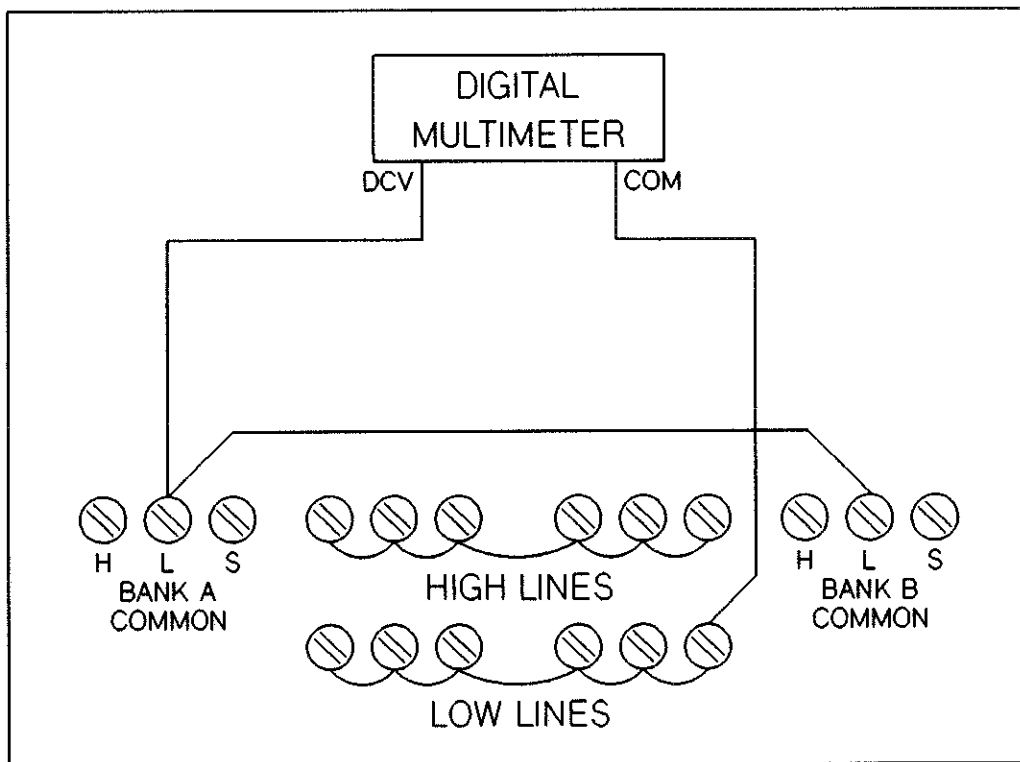

Figure 10-9 HP 44711A LOW Channel Test Set-Up
8. Connect the multimeter DCV lead to the Bank A LOW common test point on the test fixture. Connect the multimeter COM lead to the shorted LOW connections of the channels. Short the Bank A and Bank B LOW common test points together. The connections are shown in Figure 10-9.